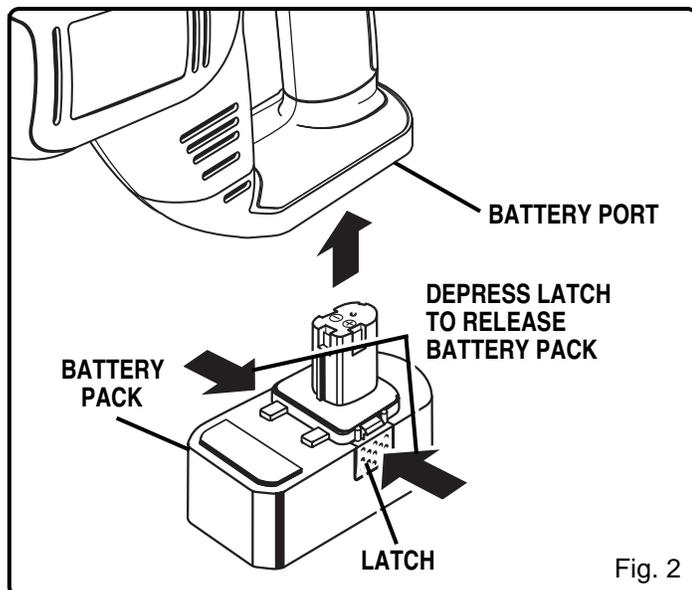

Fig. 2
See Figure 2.
- Place the battery pack in your saw aligning raised rib on battery pack with groove in saw's battery port. See Figure 2.
- Remove battery pack. See Figure 2.